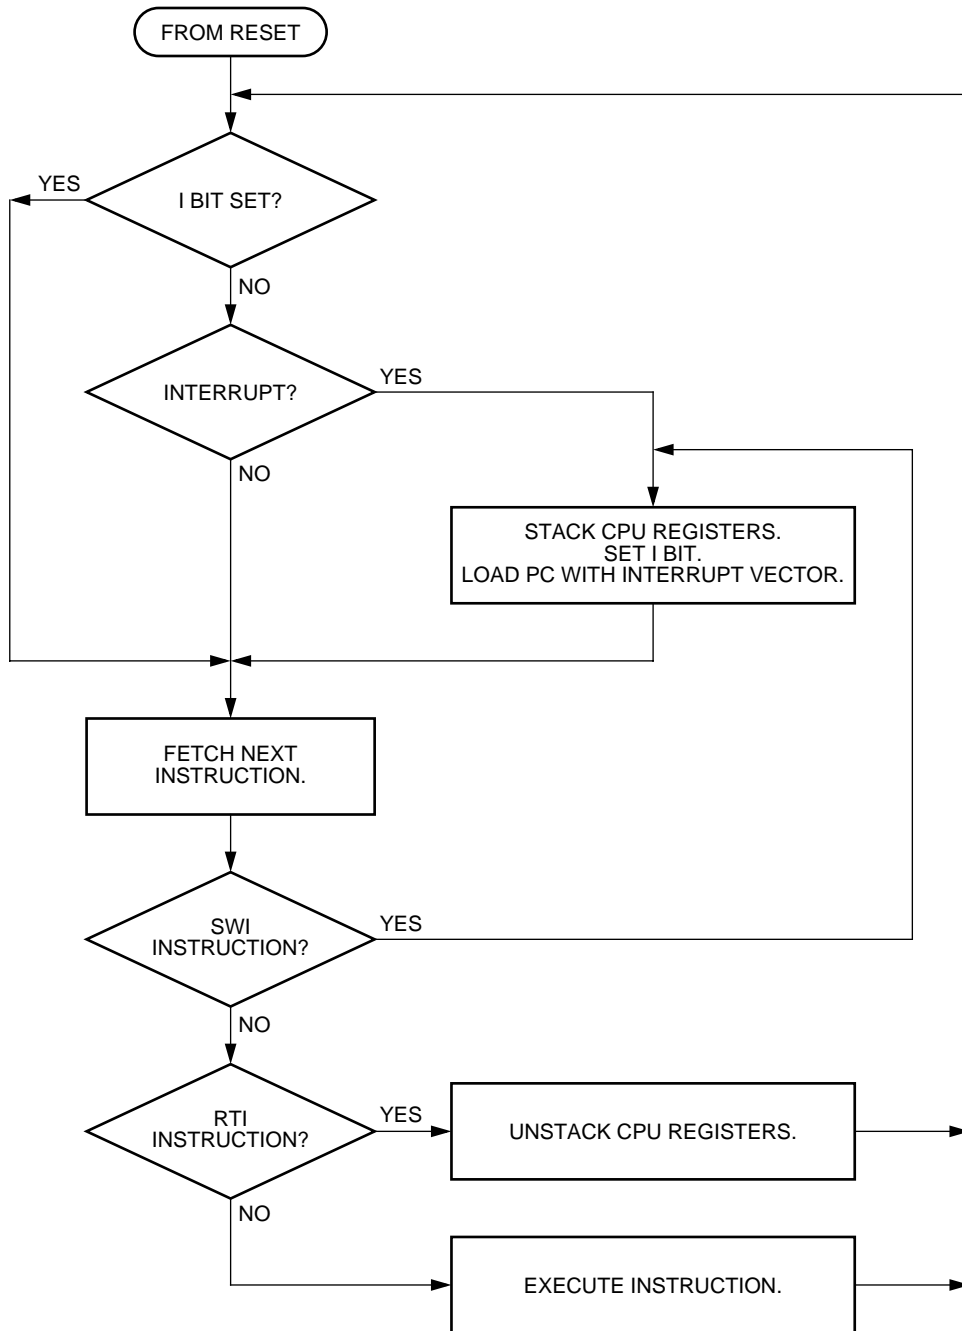

Figure 4. IRQ interrupt flowchart
**NOTE:** The interrupt mask (I) in the condition code register (CCR) masks all interrupt requests, including external interrupt requests. See Figure 4